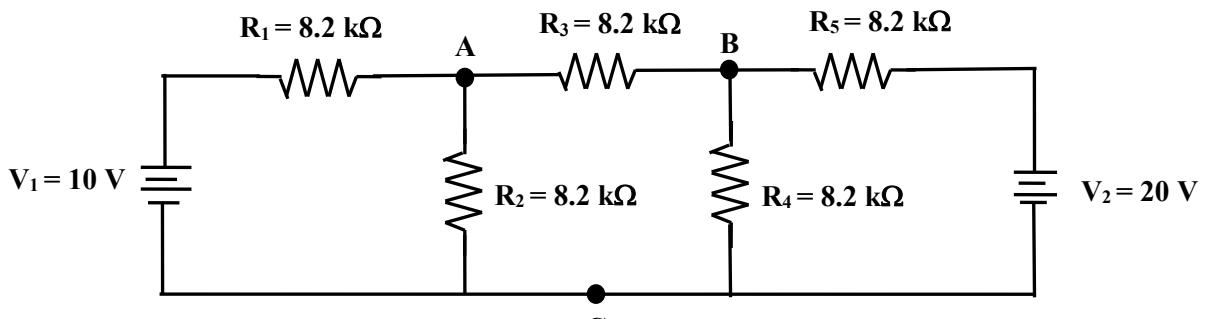

Figure 1
1. How would you choose the mesh currents if you are asked to find the currents only through the resistors R₂ and R₄ (show your choice of loop currents by redrawing Figure 1)? Give reasons for your choice.